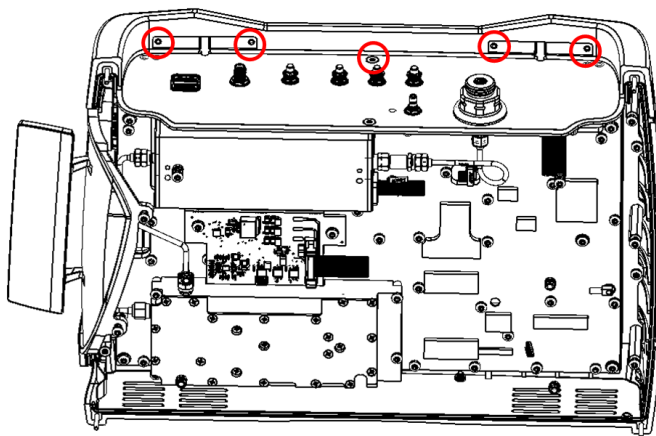

**Figure 5-4.** Two Wi-Fi Antennas
5. Using a T10 Torx screwdriver, remove the remaining screw on the top plate as shown in Figure 5-4.